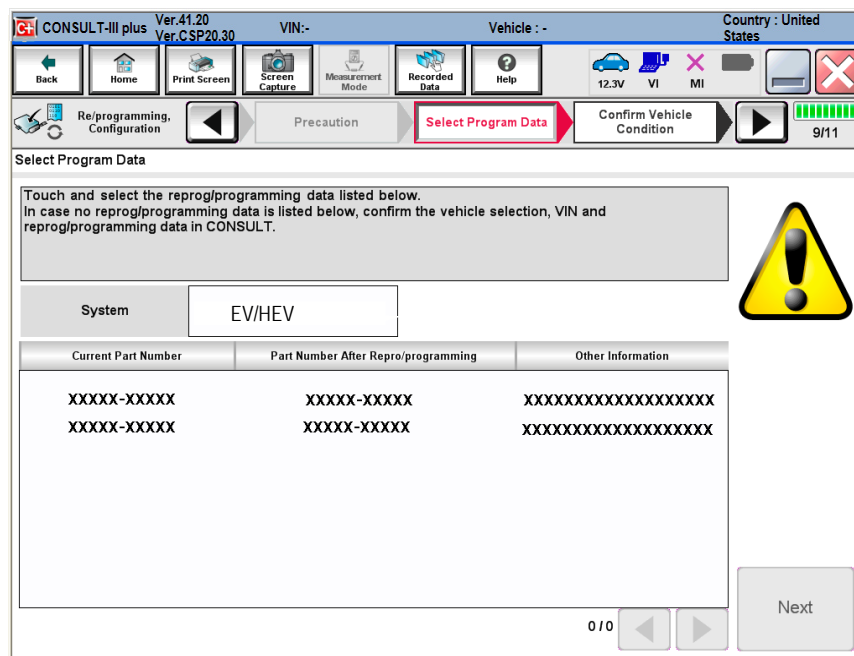

Figure 10
- If more than one P/N is available, the screen in Figure 10 will display. Select and use the reprogramming option that **does not** have the message “Caution! Use ONLY with NTBXX-XXX”.